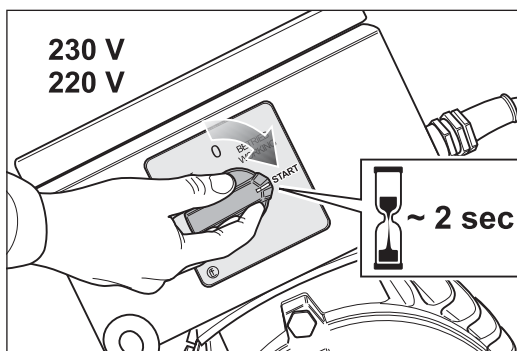

Fig. 17 To switch on the machine turn the switch button at the motor to position -START- and hold the switch button for around 2 seconds in this position.
- 2 To switch on the machine turn the switch button at the motor to position -START- and hold the switch button for around 2 seconds in this position (Fig. 17).